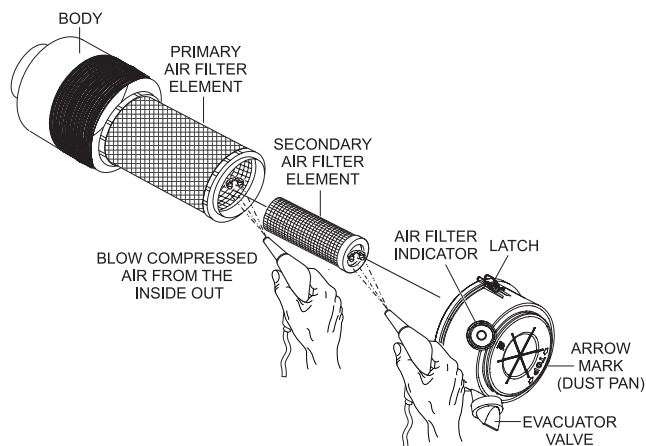

Figure 70. Engine Air Cleaner
This Isuzu diesel engine is equipped with a replaceable, high-density, paper air cleaner element (Figure 70). The air cleaner is also equipped with an inner (secondary) element that is used as a backup filter should the primary element become damaged. Check the air cleaner daily or before starting the engine. Replace the air cleaner as needed.
1. Release the latches that secure the cover to the air cleaner body (Figure 70).
2. Remove the **air cleaner cover** (Figure 70) and set it aside.
3. Remove both the primary and secondary air cleaner elements (Figure 70).
5. To clean the **primary element** (paper air filter) as shown in Figure 70, tap the filter element several times on a hard surface to remove dirt, or blow compressed air, not to exceed 30 psi (207 kPa, 2.1 kgf/cm²), through the filter element from the inside out.
8. Clean the inside of the **air cleaner body** (Figure 70).